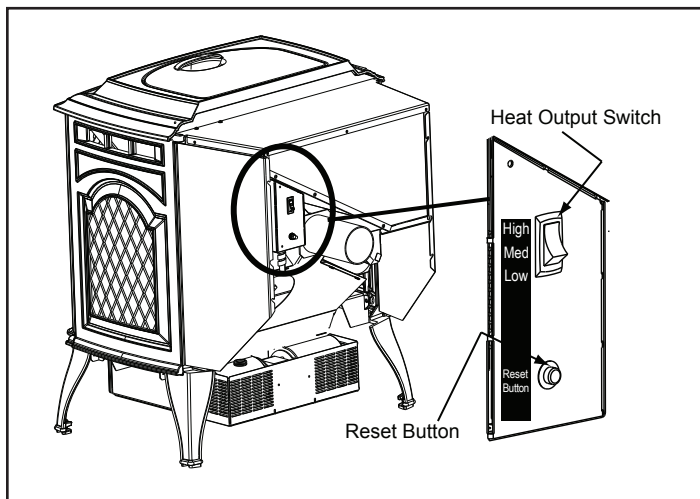
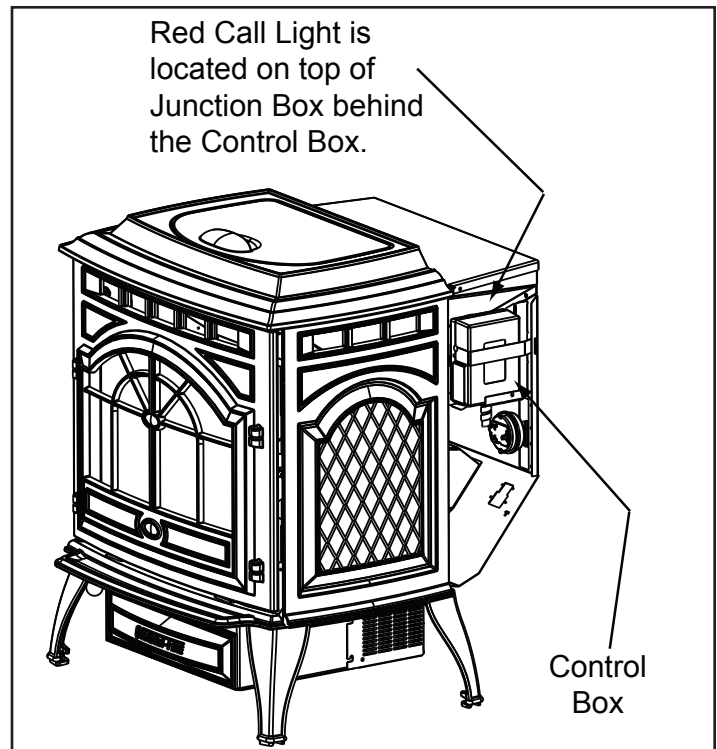

Figure 9.1
Figure 10.2
3. Locate the heat output control switch mounted on the back of the appliance in the upper right corner. **Figure 9.1.** Turn it to the "high" setting by pushing the top of the control switch in and then adjust the thermostat to its highest setting. Remove the right side panel and the red call light located to the left of the control box will be on. **Figure 10.2 on page 10.** This indicates the thermostat is calling for heat.
3. Occasionally the appliance may run out of fuel and shut itself down. When this happens, the red call light will be on. **See Figure 10.2.** To restart it, fill the hopper and press the reset button. **See Figure 9.1, page 9.** When you press the reset button the red call light will go out. Release the button and the light will come back on. You should see a fire shortly. If not, follow the instructions on **page 9**, of “Starting Your First Fire”.